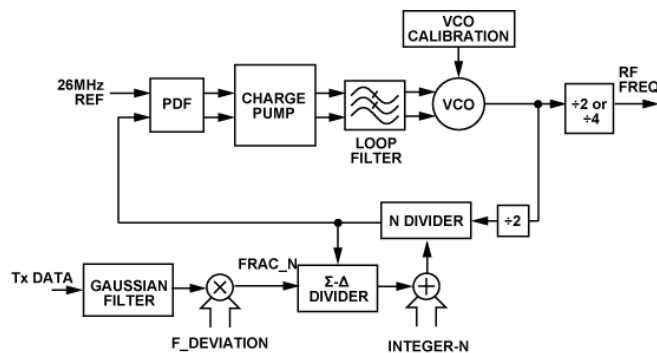

Figure 54. RF frequency synthesizer architecture
A fully integrated RF frequency synthesizer is used to generate both the transmit signal and the receive local oscillator (LO) signal. The architecture of the frequency synthesizer is shown in Figure 54.